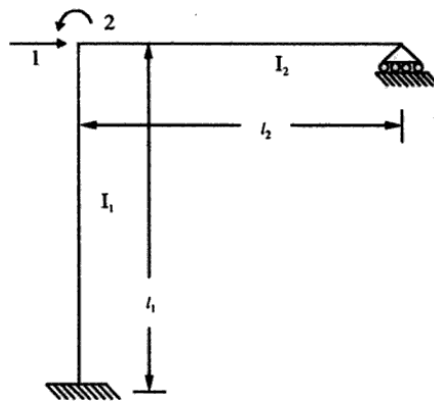

Figure 2.11
- b) Generate the stiffness matrix for the structure with coordinates as shown in Figure 2.11